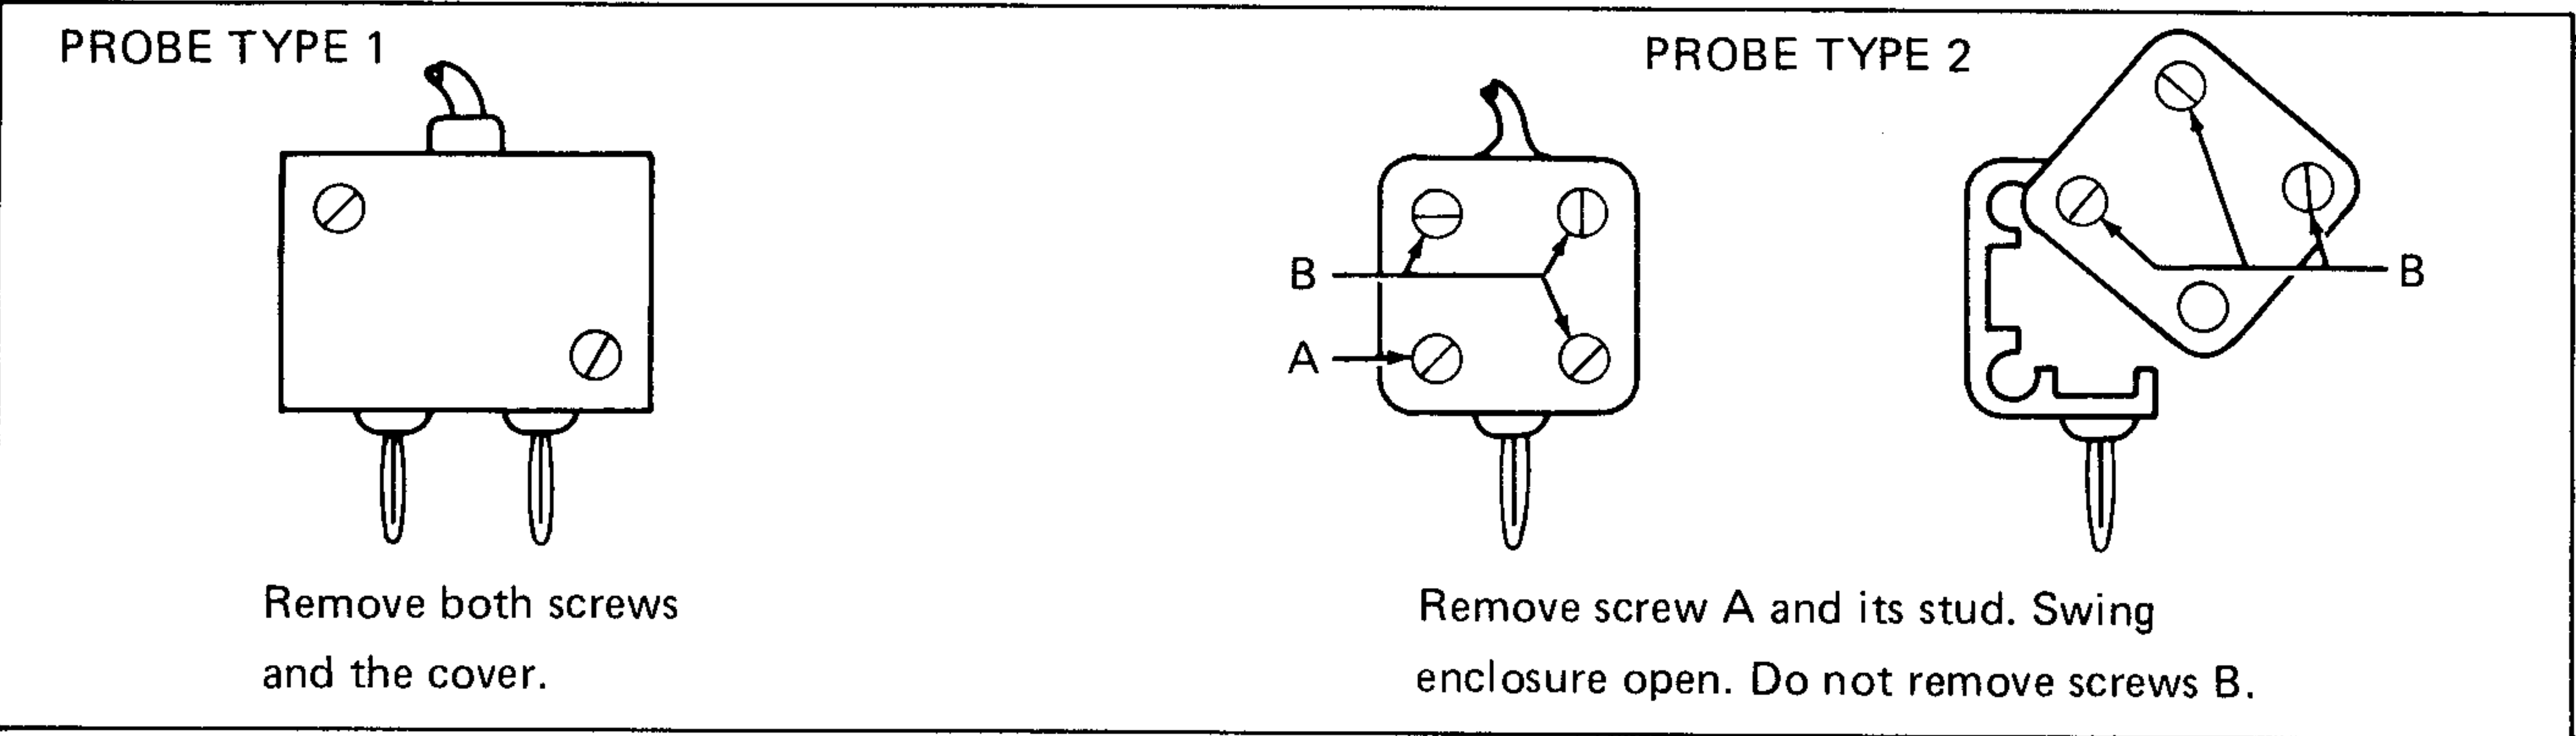

Figure 4. Adjustment Access Details
5. The calibration adjustment is located in the DMM connector portion of the 82RF. Refer to Figure 4 and access the adjustment using the appropriate procedure.